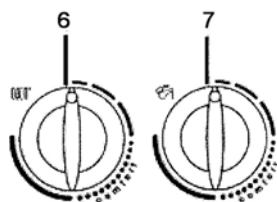

Fig. 28A
1. Turn the Mascots control knobs 6 and 7 (figure 26) fully counter-clockwise to their minimum positions as shown in figure 28A.